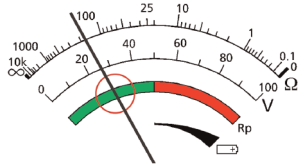

Figure 17a: P Spike OK (in green zone)
6. If the P Spike resistance is within acceptable limits as shown in Figure 17a (within the Green region on the Rp scale), release the 'Spike' button.